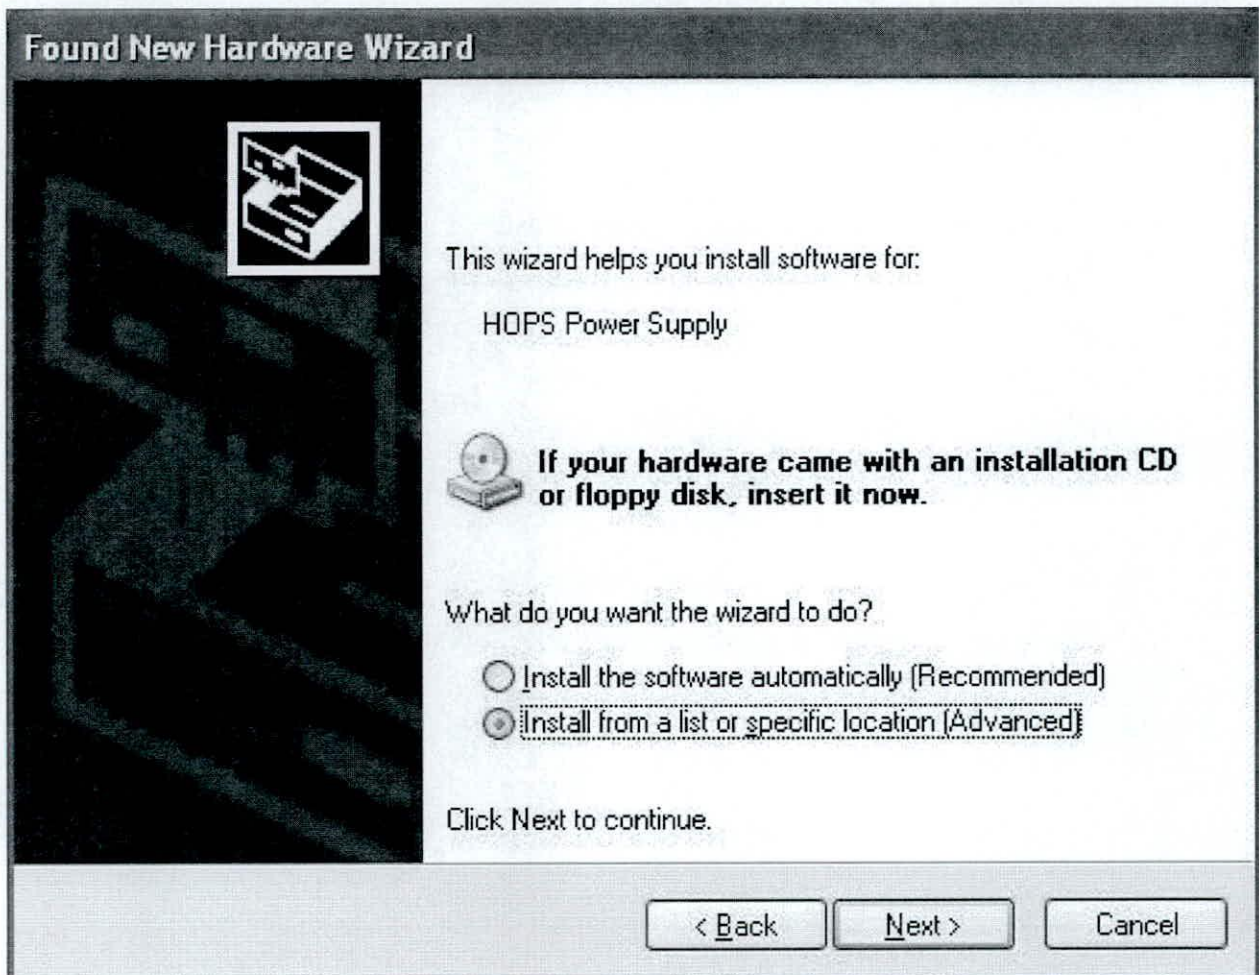

Figure 3-3. Software Location
4. Select the option to look for drivers in a specific location, see Figure 3-3